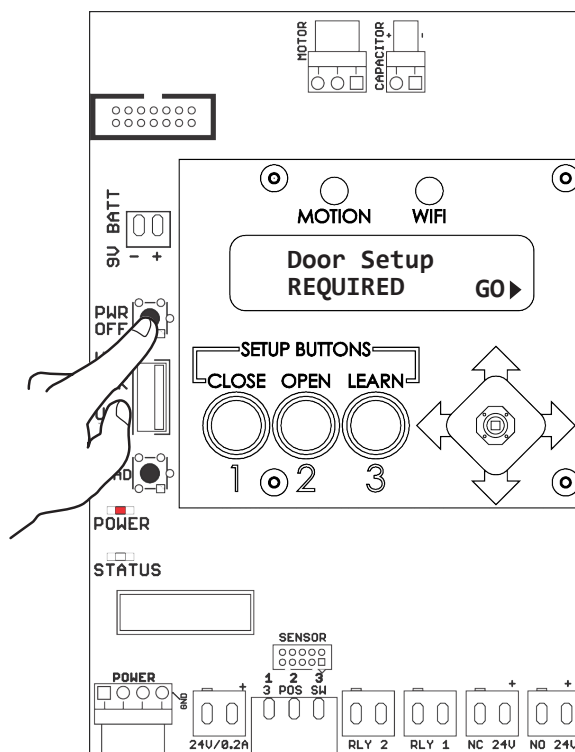

Fig. 5
3. Use supplied green connectors to wire in any devices needing outputs, such as electric strikes, mag locks, exit devices, door open position output, etc. (Fig. 5 on page 4) See "Input Connections (Default)" on page 11 and "Output Connections (Default)" on page 12 for information.
2. Wire any additional devices, such as electric strikes, to the green Input and Relay terminal block connections (Fig. 5). Refer to Input Connections page 11 and Output Connections on page 12 for additional information.
- Power will normally be “On” for operator. Power can be turned on or off by pressing power button. (Fig. 5)
- CLOSE button of Setup Buttons should be flashing orange continuously. (Fig. 5)